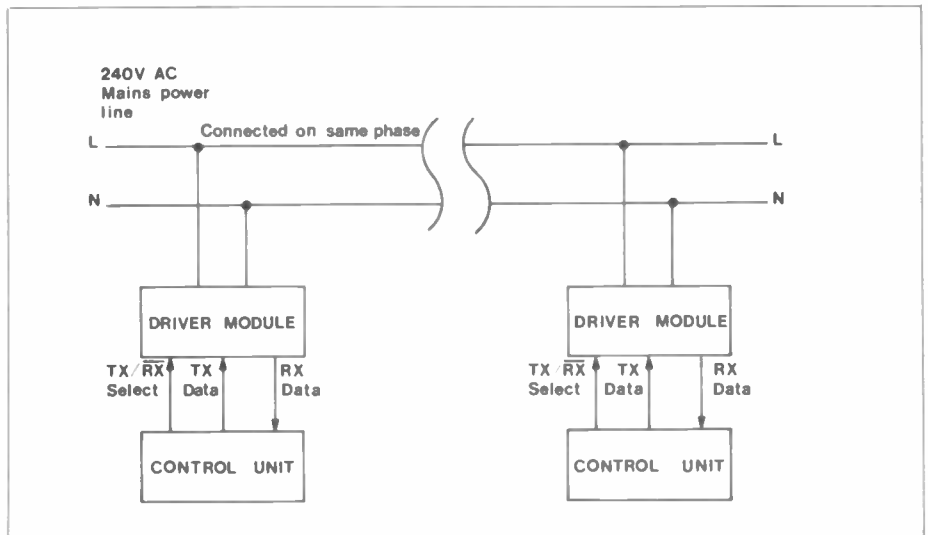

Figure 8. Connecting to Mains
Figure 8 shows the general method of using the driver module. It must be remembered that this unit is only an interface between communicating equipment and the mains and is not a complete encoding/decoding system with protocol and handshake. Communicating devices can be of any form, e.g. alarm systems, RS232 keyboards or TTL outputs from microcomputers.
**Low Power Radio Control System.** In Figure 8, the 27MHz Receiver Circuit, IC1 pin 15 is connected via T4 (pin 3) to the positive rail (IC1 pin 6).